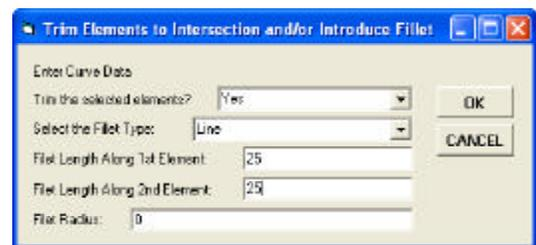
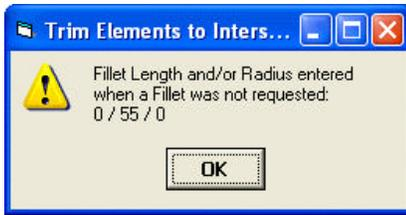

Figure 10
Figure 11
Once the primitives to be intersected have been selected, the user is presented with the input dialog box of Figure 10 to specify whether primitive trimming and fillet creation are desired or not.
There are five data fields in this dialog box, and they all must be entered appropriate data. If any inappropriate or invalid data is entered, a message box similar to that of Figure 11 is displayed, and the dialog box of Figure 10 is displayed again.
- The user's input dialog box of Figure 10 is displayed.
- Enter the fillet length along the first selected primitive, if a line fillet is to be inserted, or enter zero(0) if an arc fillet, or no fillet is to be introduced.
- Enter the fillet length along the second selected primitive, if a line fillet is to be inserted, or enter zero (0) if an arc fillet, or no fillet is to be introduced.
- Enter the radius of the fillet, if an arc fillet is to be inserted, or enter zero (0) if a line fillet, or no fillet is to be introduced.
Regarding the last intent, it is noted that the other intersection tools require that an intersection be located within the confines of a polyline's graphic extent. This new tool does away with this requirement, and will generate an intersection outside the graphic extent of a polyline by extending the first or last polyline segment. The disadvantage of this new tool for intersecting polylines is that the user is forced to complete the dialog box of Figure 10.